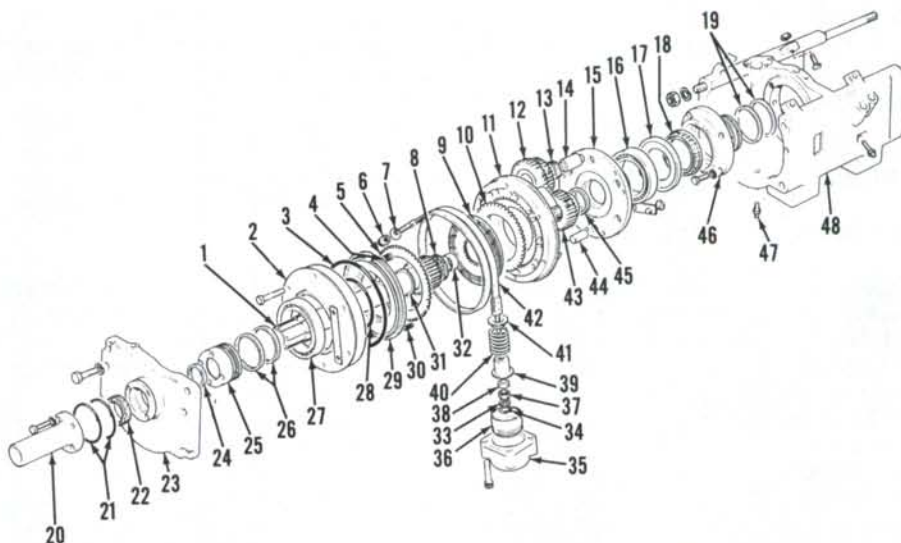
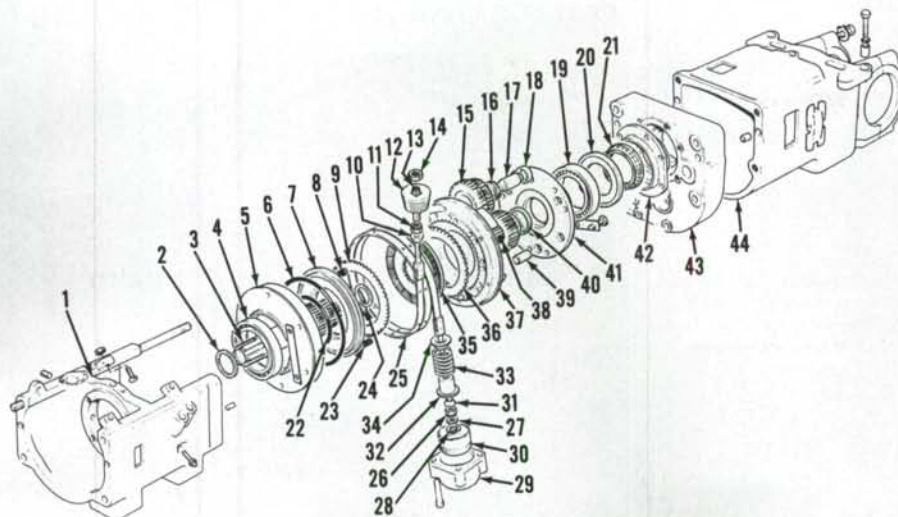
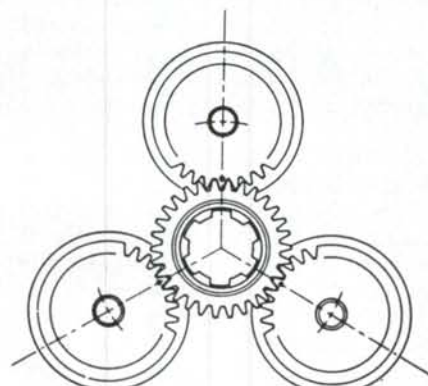

Fig. 196—Exploded view of front planetary assembly of power shift transmission. See Fig. 197 for view of rear planetary assembly.
Fig. 197—Exploded view of rear planetary assembly of power shift transmission. See Fig. 196 for view of front planetary assembly.
Fig. 198—Planet gears must be timed as shown with punch marked tooth of each gear pointing towards center of sun gear.
(20—Fig. 196) and front cover (23). Disconnect brake line from front planetary brake cylinder (35) and remove cylinder. Loosen front brake band locating screws and remove brake band adjusting nuts (6 and 37). Remove sleeve (39), spring (40) and seat (41). Withdraw input shaft (1), then remove brake band (42) and lift front planetary unit from center housing. Remove hydraulic line for planetary brake cylinder from center carrier. Remove spacer plate (17) and sprag clutch (18).
Turn center housing over, then remove rear brake band and rear planetary assembly (Fig. 197) from housing in same manner as front unit. Unbolt and remove bearing carrier (46—Fig.
196) from center housing. Remove spacer (20—Fig. 197), sprag clutch (21) and carrier (42) from rear end housing (43) if necessary.
261. FRONT PLANETARY OVERHAUL. Mark clutch cylinder (2—Fig. 196), carrier (11) and end cover (15) so they can be reassembled in their original positions. Remove mounting bolts, then separate clutch cylinder from planetary carrier. Remove piston (29) from cylinder and remove and discard "O" rings (3 and 28). Remove inner and outer springs (4 and 30). Remove clutch plates (5, 9 and 10) keeping plates together for use in reassembly.
Install planetary gear pins, bearings and gears in their original positions with gear timing marks pointing toward center of carrier. See Fig. 198. Install sun gear aligning timing marks as shown. Install thrust washer (45—Fig. 196), with oil groove facing up, into end cover (15). Install end cover over planetary gears aligning marks made during disassembly. Tighten mounting bolts to 40 N·m (30 ft.-lbs.) torque and secure with locking plates.
262. REAR PLANETARY OVERHAUL. Mark clutch cylinder (5—Fig. 197), carrier (37) and end cover (41) so they can be reassembled in their original positions. Remove clutch cylinder mounting bolts and separate planetary halves. Remove inner and outer springs (8 and 23). Remove piston (7) from cylinder and remove and discard "O" rings (6 and 22).
Install new bearing (4—Fig. 197) on clutch cylinder (5). Lubricate "O" rings (6 and 22) and install on piston, then carefully install piston into cylinder. Install inner springs (8) and apply grease to hold springs in position during assembly.
Install bearing pins (17) in carrier (37) making sure they are in their original positions. Assemble a short bearing (16), thrust washer (18) with oil groove facing away from short bearing and a long bearing onto bearing pins. Install planetary gears on their original pins with gear timing marks pointing toward center of carrier. See Fig. 198. Place thrust washer in sun gear counterbore with oil groove side of washer facing up. Install sun gear with thrust washer towards carrier aligning timing marks as shown in Fig. 198. Install new bearing (19—Fig. 197), if removed, on end cover (41) and position thrust washer (40) in cover. Position end cover over planetary gears aligning assembly marks made during disassembly. Tighten mounting bolts to 40 N·m (30 ft.-lbs.) torque and secure with locking plates.
Install outer clutch springs (23—Fig. 197). Align assembly marks and install cylinder (5) on carrier. Tighten mounting bolts to 27 N·m (20 ft.-lbs.) torque, then bend corners of locking plates against bolt heads.
263. CENTER CARRIER AND FRONT COVER. Inspect sealing rings (19—Fig. 196) in bearing carrier (46) and renew as necessary.
Renew thrust washer (31—Fig. 196), bushing (32) and oil seal (8) in front input shaft (1) if necessary. Be sure to install thrust washer with oil groove side towards gear.
Pry oil seal (22—Fig. 196) from front cover (23). Remove seal rings (26) from front support sleeve (25). Remove sleeve mounting bolts and remove sleeve from front cover if renewal of bushing (24) is necessary.
Install new bushing (24) flush with inner face of support sleeve (25). Apply gasket sealer to mounting surface of sleeve, then install and tighten bolts to 20 N·m (15 ft.-lbs.) torque. Install sleeve sealing rings (26) with chamfered side up on top ring and chamfered side down on bottom ring as shown in Fig. 200. Install new front oil seal (22—Fig. 196) with lip facing inward.
Install front cover and tighten mounting bolts to 20 N·m (15 ft.-lbs.) torque. Install new "O" rings (21—Fig. 196) on support sleeve (25) and tube (20). Position support tube (20) on front cover so oil hole in tube is towards bottom of power shift housing and tighten mounting bolts to 12 N·m (9 ft.-lbs.) torque.